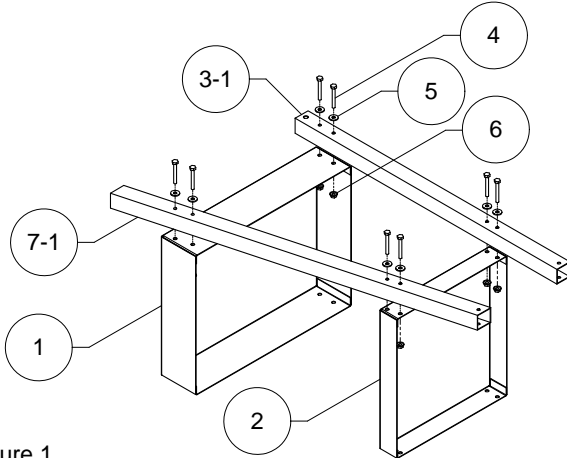

Figure 1
1. Place lower tray (1) and upper tray (2) on flat surface. Align the lower holes in back leg (3) with holes in lower tray (1), fasten the back leg to lower tray with 2 each bolts (4), washers (5) and nuts (6). Align the middle holes in back leg with holes in upper tray and fasten with 2 each bolts (4), washers (5) and nuts (6). Note: At this time only finger tighten the bolts and nuts, so the frame can be easily adjusted to square later.
2. Place front leg (7) onto lower and upper trays aligning the holes in all three parts. Attach the front leg to both trays with bolts (4), washers (5) and nuts (6). Flip the cart over 180° and repeat steps 1 and 2 for the right side legs. See Figure 1.